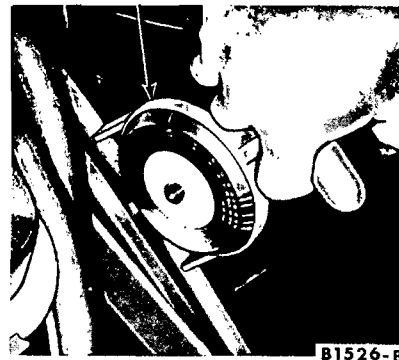

FIG. 3—Checking Drive Belt Tension
1. Install the belt tension tool on the drive belt (Fig. 3) and check the tension following the instructions of the tool manufacturer.